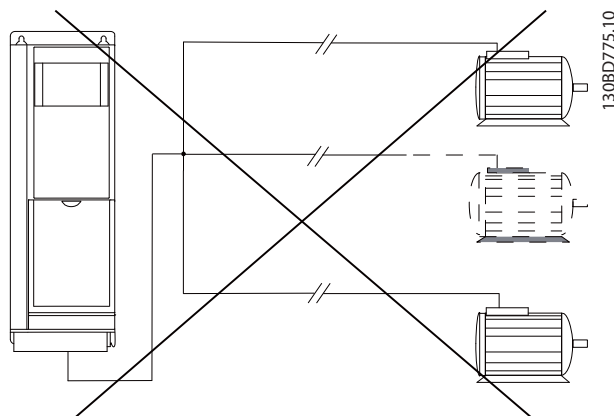

Figure 3.12 Common Joint Connection for Long Cable Lengths
- Do not use common joint connection for long cable lengths, see Figure 3.12.